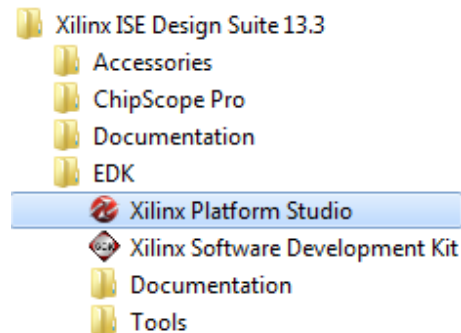

Figure 1. Starting EDK (Step 1)
Step 1: We start by building the hardware using the XPS. Start XPS using the program menu as shown in Figure 1.